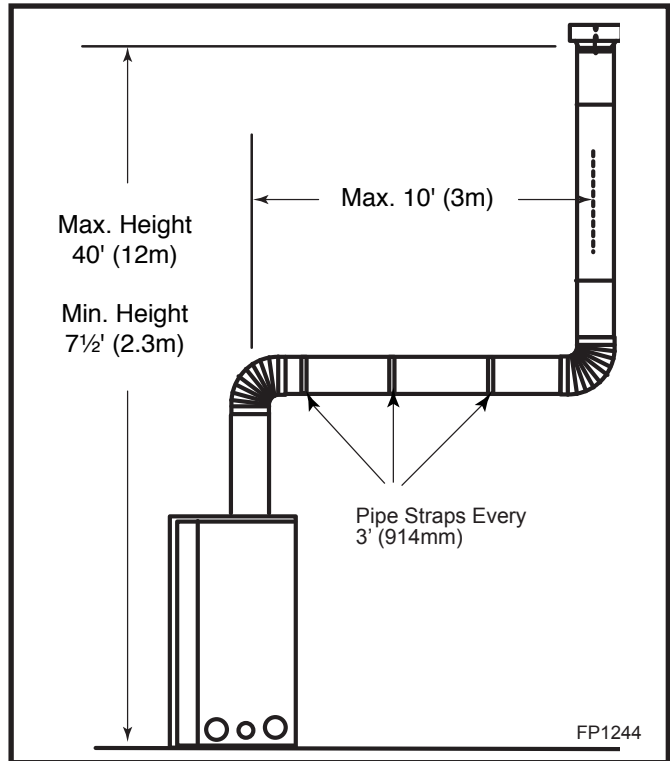

Fig. 50 Support straps for horizontal runs.
- Vertical installations up to 40' (12 m) in height. Up to a 10' (3 m) horizontal vent run can be installed within the vent system using a maximum of two 90° elbows. (Fig. 50)